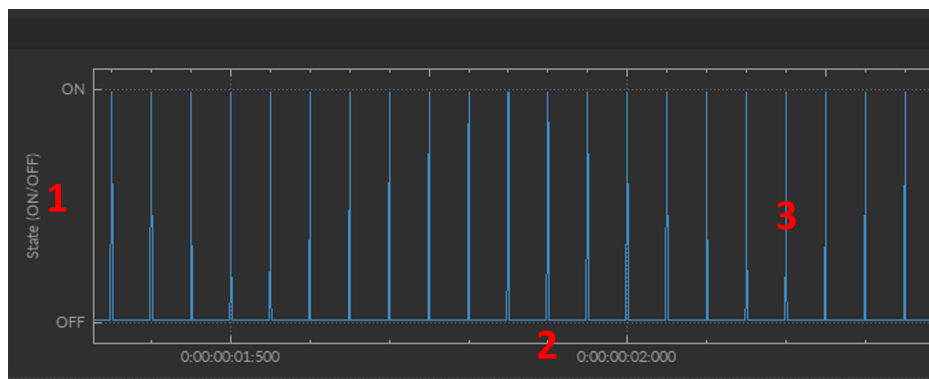

Figure 7.33: Digital I/O(s) View - Graph
1. The **Y-axis** (Fig. 7.33, 1) displays the Digital **State** of the channel, which can be either ON (1) or OFF (0).
2. The **X-axis** (Fig. 7.33, 2) displays the time in d:hh:mm:ss:zzz.
3. The **Trace** (Fig. 7.33, 3) can be edited by selecting the **Graph** button in Section 7.5.1.1, no. 3.